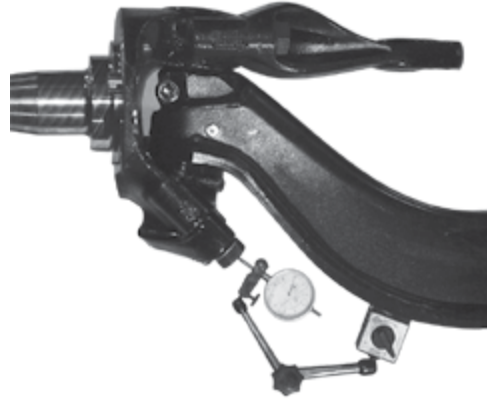

FIGURE 7-13
5. Move the top of the tire in and out by applying reasonable constant pressure and then release, see Figure 7-13.